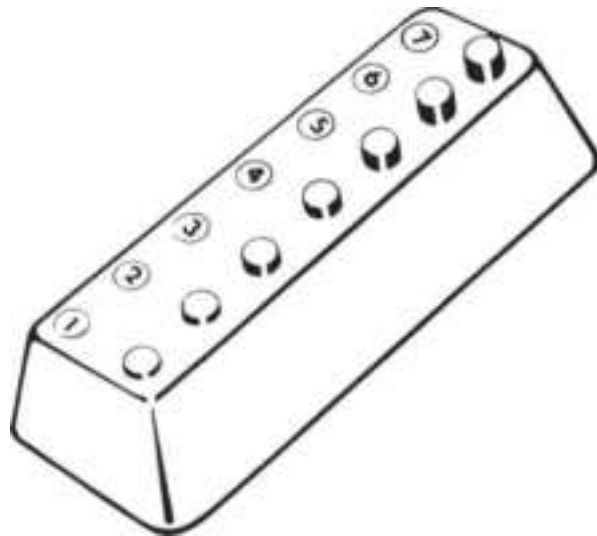

**Figure 2.26** A tubular key decoder makes it easy for a locksmith to determine the bitting of tubular keys. (*A-1 Security Manufacturing Corp .*)
- Tubular-key decoder (Fig. 2.26 )